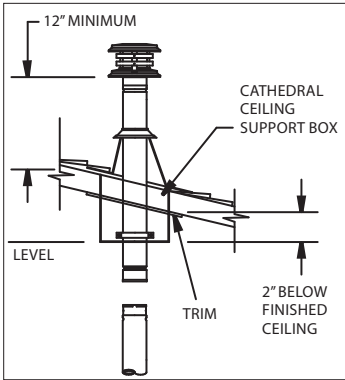

Figure 22
9. Connect the necessary amount of pipe sections to reach the stove at a point where the Cap will be at least 12" above the roof (**Figure 22**).